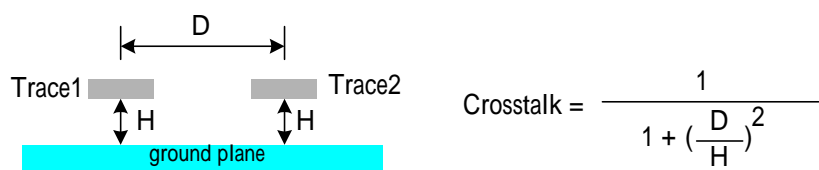

Figure 12-2 Approximate equation to estimate crosstalk
2. Avoid routing of S/PDIF-IN trace parallel to S/PDIF-OUT. Figure 12-2 shows an approximate equation to minimize crosstalk, distance (H) with reference plane must be minimized, and distance (D) between traces must be maximized. (Refer to "High Speed Digital Design". Johnson, H. W., and M. Graham. 1993. Englewood Cliffs, NJ: Prentice Hall)